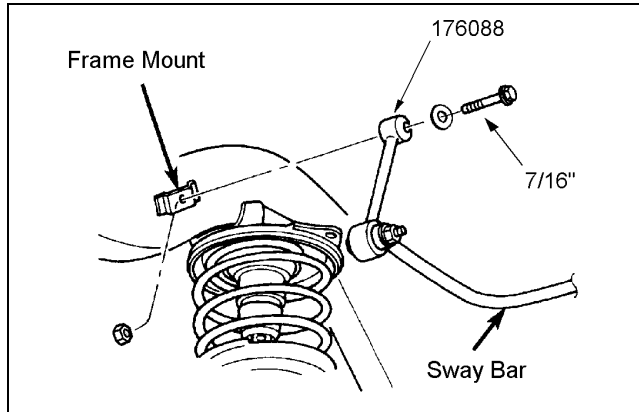

Figure 16
- 4) ☐ Attach the new end link assemblies to the frame brackets and rear sway bar with the hardware from kit 860155. See Figure 16. Tighten the end link mounting bolts to 40 ft. lbs.